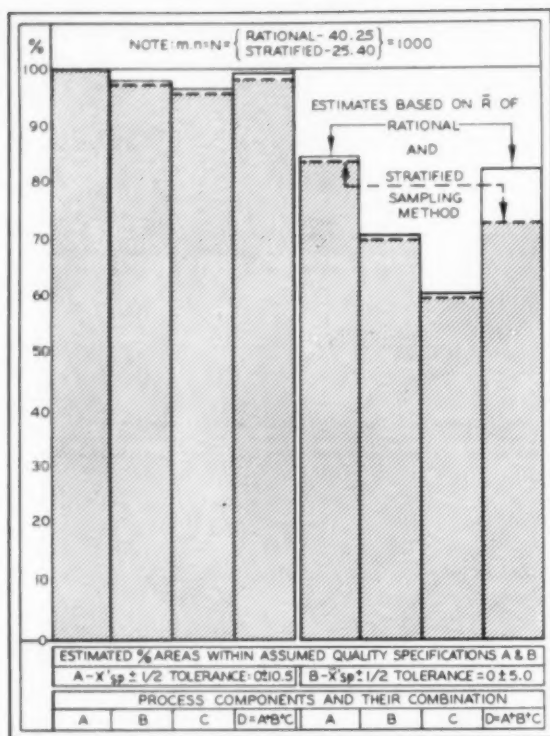

Fig. 9. Comparison of percentage areas under the normal curve within two assumed quality specifications based on  $\bar{R}$  of  $m$  subgroups of  $n$  values  $X$ .
**Fig. 9.** Hopper-fed automatic machine for assembling wheels to their axles. Wheels are oriented and fed from hoppers on each side to axles which have been located in slot stations on the machine dial. As the dial indexes, the machine presses on the wheels and locates them to gage position.
**Assembly:** Wherever possible, parts are assembled into subunits and automatic equipment is employed whenever the parts lend themselves to that type of handling within production schedules. Hopper feeding of parts to dial machines and other types of automatic machines is utilized extensively. For example, *Fig. 9* shows a machine for assembling the powder-metal car wheels to their axles on a vertical-station machine, and *Fig. 10* illustrates a semiautomatic machine for winding the drive motor armatures. The armatures and shafts are assembled with the insulated commutators and are fed by an operator into the machine. All three armature coils are wound simultaneously and are ejected from the machine automatically much like link sausages in that the coil wires are not cut between armature winding cycles. This single machine does the work of at least six winders previously employed.
To illustrate this point, the two sets of bar diagrams in Fig. 9 represent the percent areas under the normal curve within two sets of quality specifications, one liberal, one tight; but in both cases those estimates are based on the  $\sigma_r = \bar{R}/d_2$  derived from the two methods of sampling previously considered. The solid line on the top of each bar represents the percentage estimated from the  $\bar{R}$  of the rational samples; the dotted line represents the same percentage, but estimated from the  $\bar{R}$  of the stratified samples previously analyzed through the control chart method. The first four bars pertain